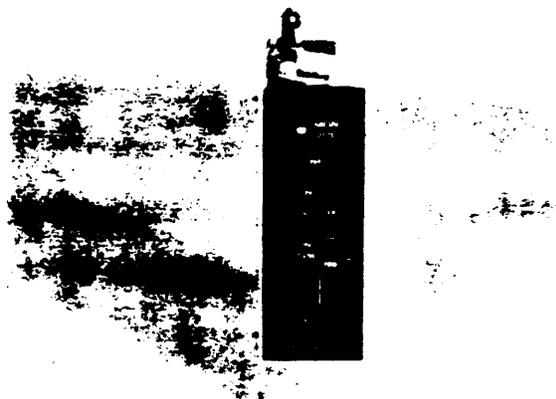

Fig. 4—FM Tuner Card
3.09 The optional FM Tuner Card (Fig. 4) provides a source of background music for the paging system and may also be used to provide the music for the music-on-hold feature of the associated telephone system. The FM Tuner Card plugs into connector J101 on the PagePac® VS card chassis. The tuner incorporates a built-in speaker for monitoring, automatic frequency control and a visual tuning indicator.
FM Tuner Card (Fig. 4)